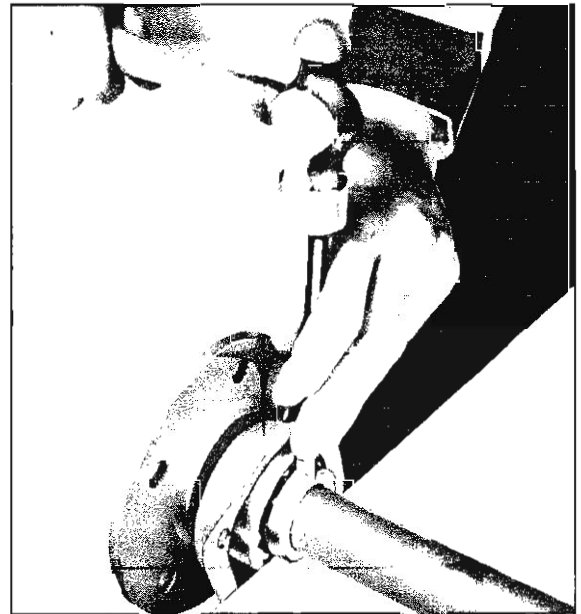

Fig. 1—Splitting Bearing Retaining Ring
2. Remove bearing retainer ring by splitting with chisel, as shown in Figure 1.